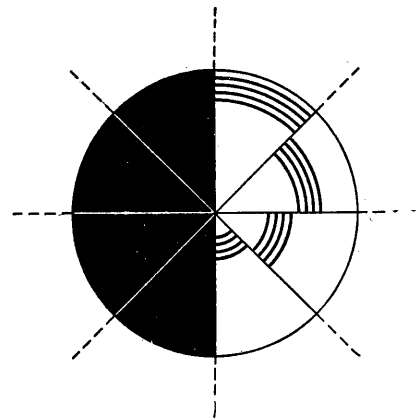

Fig. 3. Benham's top shown divided into eight segments.
Fig. 3. A method of producing frequency modulation at v.h.f. The flux in the core may be produced either by passing current through the coil on the core, or by placing the core in the gap of an electromagnet.
All three methods of applying flux to the core become ineffective as the frequency is raised, i.e., as the number of turns on the r.f. coil is decreased. This may be avoided by using the circuit shown in Fig. 3, where the ferrite-cored coil is tapped onto another coil. The total inductance is reduced without reducing the number of turns on the ferrite-cored coil. The disadvantage is that the percentage inductance change of the combination will be less than that of the ferrite-cored coil alone.
The first two systems, giving frequency changes of $\pm 0.25\%$ and $\pm 0.15\%$ respectively, are suitable for an f.m. signal generator. (The ± 75 kc/s maximum deviation of the B.B.C. v.h.f./f.m. signals represents a change of less than $\pm 0.1\%$.) They could also be used to apply a.f.c. to a radio receiver. However, as a simple ferrite-cored coil will not give any frequency change above 45 Mc/s, for v.h.f. such as the 90 Mc/s f.m. broadcast band it would be necessary either to use the third or fourth harmonic of the local oscillator, or one of the circuits shown in Figs. 3 and 4. The author has used method (1) to provide frequency sweep in a wobulator. (A wobulator enables the response curves of tuned circuits, e.g. i.f. transformers, to be displayed on a cathode-ray oscilloscope.) The wobulator was built for use with a short wave receiver tuning over the range 4.5-15 Mc/s. Since the receiver had an i.f. of 465 kc/s,
ham's top may be divided into eight segments (Fig. 3). Areas shaded in accordance with these eight segments are projected successively on to a screen, but the segment containing the arcs is replaced by a system of dots, thus increasing the length of the black-white boundary areas, on which the effect is to some extent dependent.
Fig. 4. (a) Adaptation of the 8 segments of the top in Fig. 3 to a cycle of 8 successive film frames. A different sequential pattern is used for each colour, and dots replace the arcs of Fig. 3. In (b) are modified code patterns used for reducing flicker.